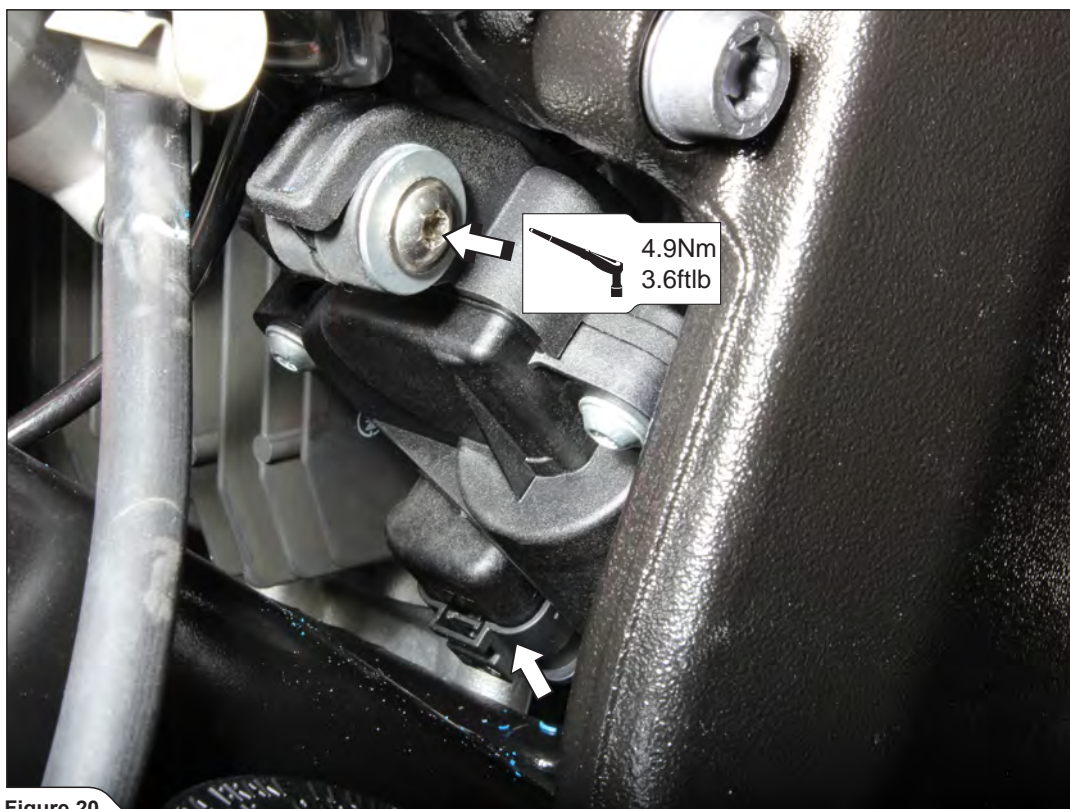

Figure 20
15. Reconnect and reinstall the servo motor (Figure 20). Assemble the rear brake reservoir's bracket and reservoir in the reverse order from the order in which they were removed; check vehicle manufacturer manual for tightening torques.